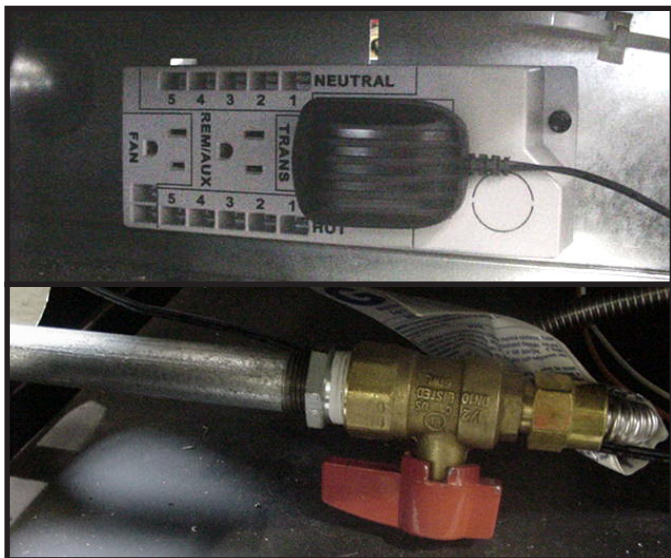

Figure 13.1
Step 1. Turn off gas to valve. Red gas shutoff knob is located on ball valve. Disconnect the 3 volt transformer from the junction box. See Figure 13.1.